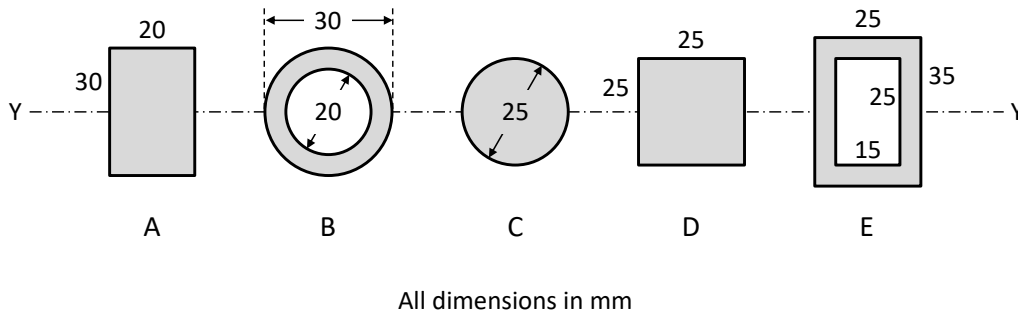

Fig. Q15
15. Which of the cross-sections shown in Fig. Q15 has the largest 2nd moment of area about the Y-Y axis?